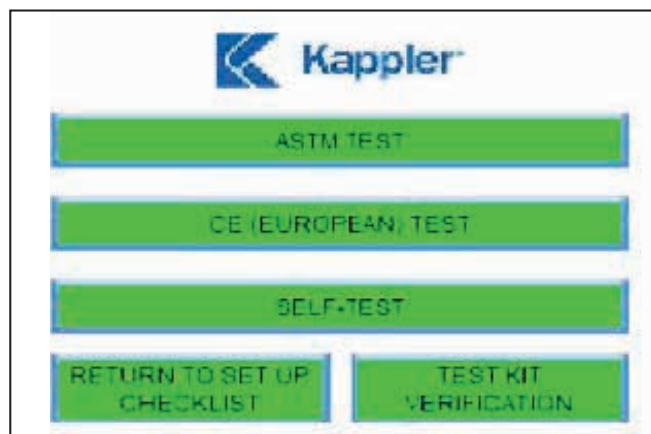

Figure 4: Test Selection Page
7. Press the “TEST SELECTION” button on the startup page to proceed to Test Selection Page (Figure 4).
8. Place each exhaust valve cover (M) and diaphragm (N) in a safe place until testing is completed.
10. On the test kit touch screen Test Selection Page (Figure 4, page 8), press the “ASTM TEST” or “CE (EUROPEAN) TEST”, depending on the test needed. On the Test Page, press the “INPUT USER AND GARMENT INFORMATION” dialog box to reach the User and Garment Information Page (Figure 7). The information for the tester, the style/color/size of the garment, garment serial number, garment manufacturing date and test kit serial number can be recorded. After the necessary information has been entered, press the appropriate button and return to the ASTM or CE test page.